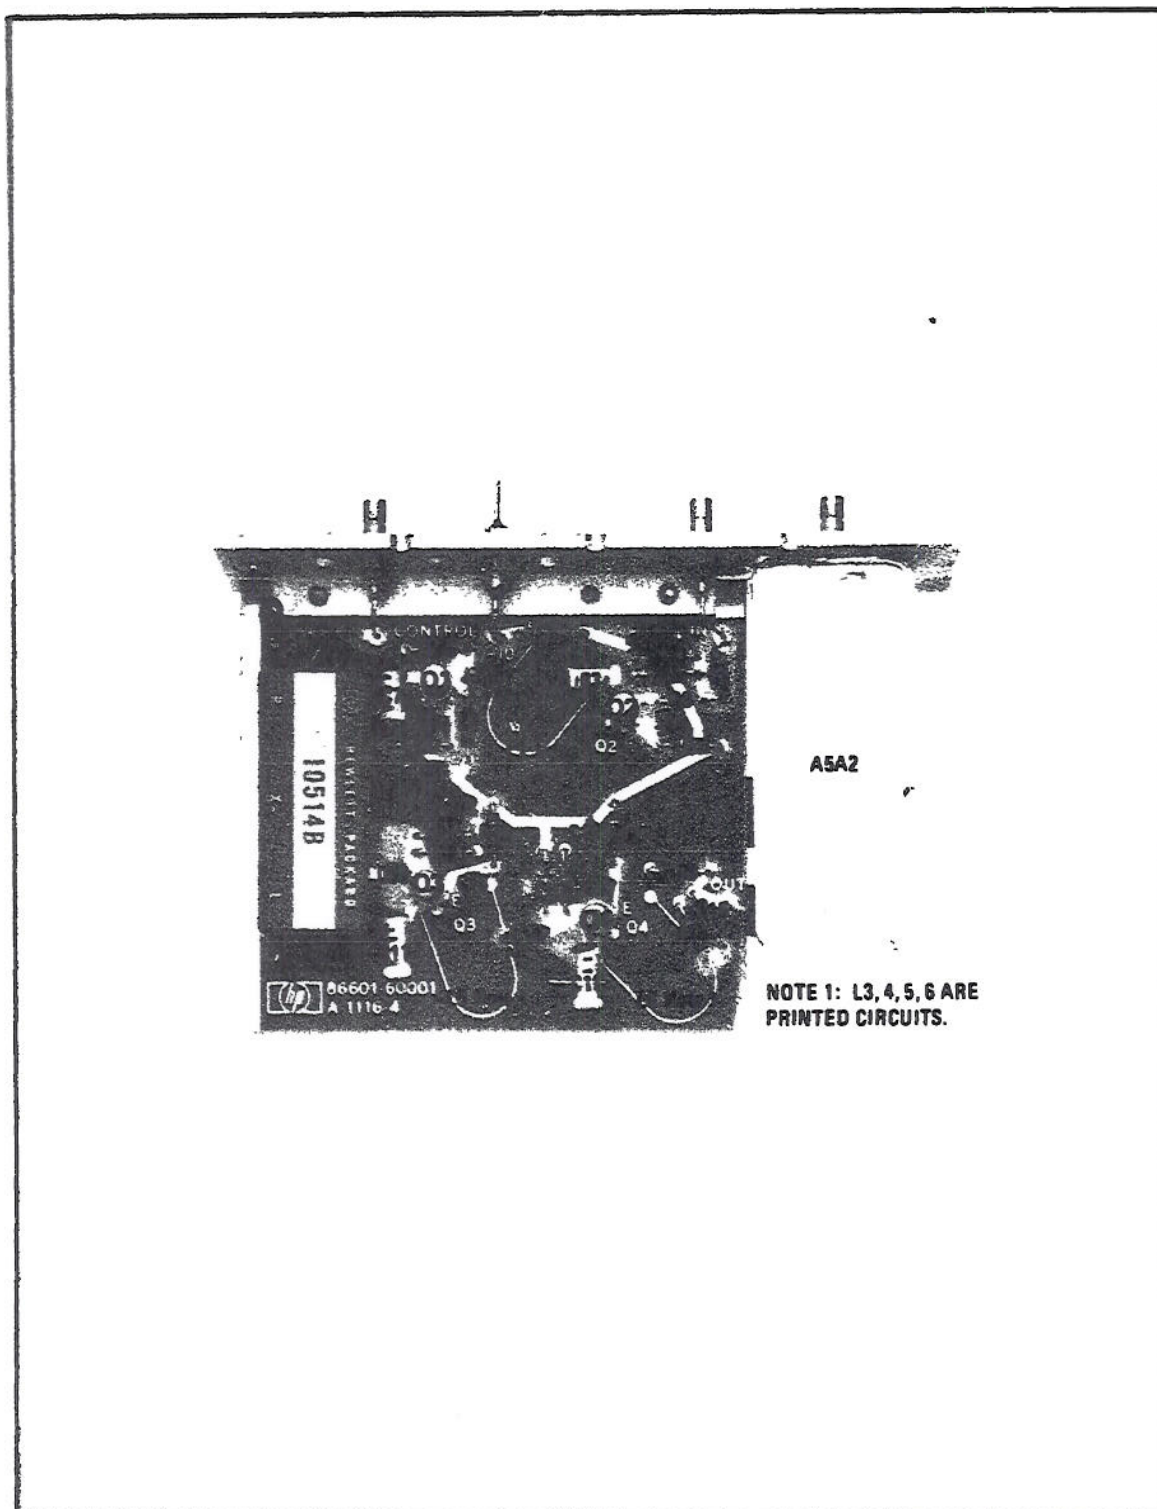

Figure 7-4. Modulator Assembly Component Locations
**Refer to Figure 7-3 for schematic, Figure 7-4 for component locations and Table 7-2 for replaceable parts.**